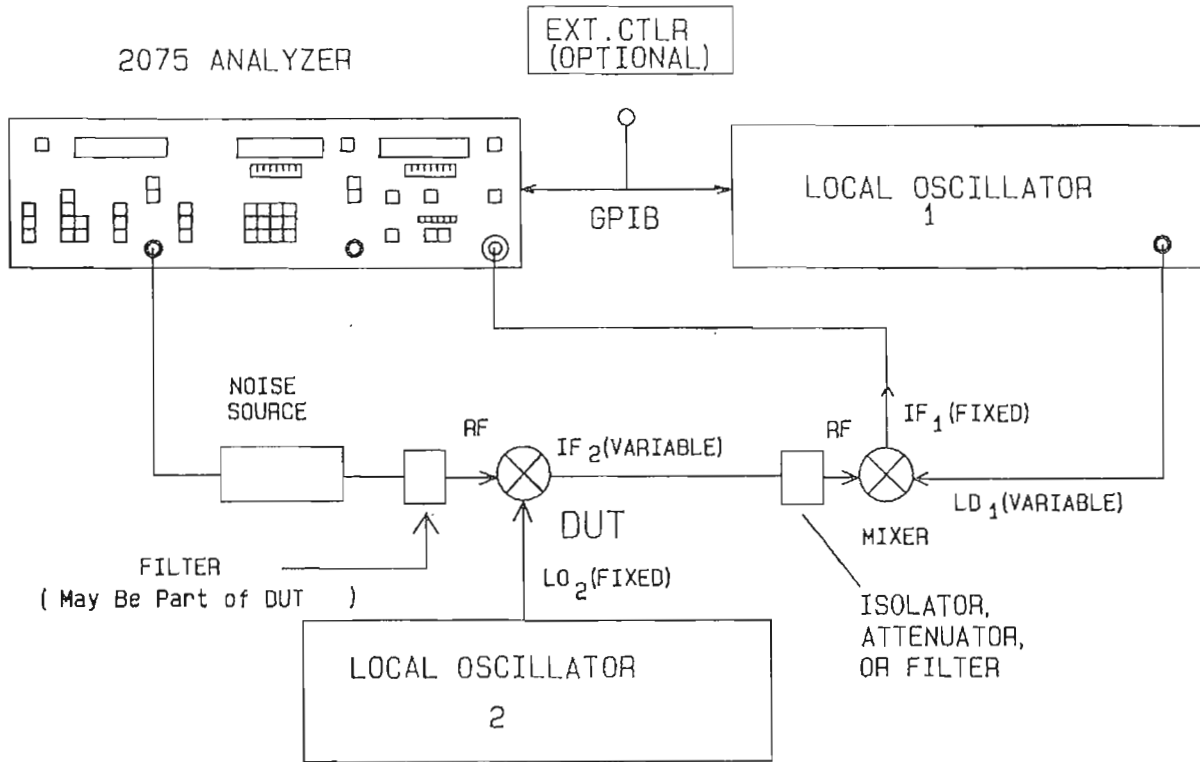

Figure 3-13b. TEST CONFIGURATION 6 MEASUREMENT
21. Insert the Device Under Test into the setup, as shown in Figure 3-13b. If external relays are being used, ignore this step. Upon completing the calibration, the 2075 removed voltage from the relays to place the DUT in the measurement path (unless Special Function 10.1 has been activated).